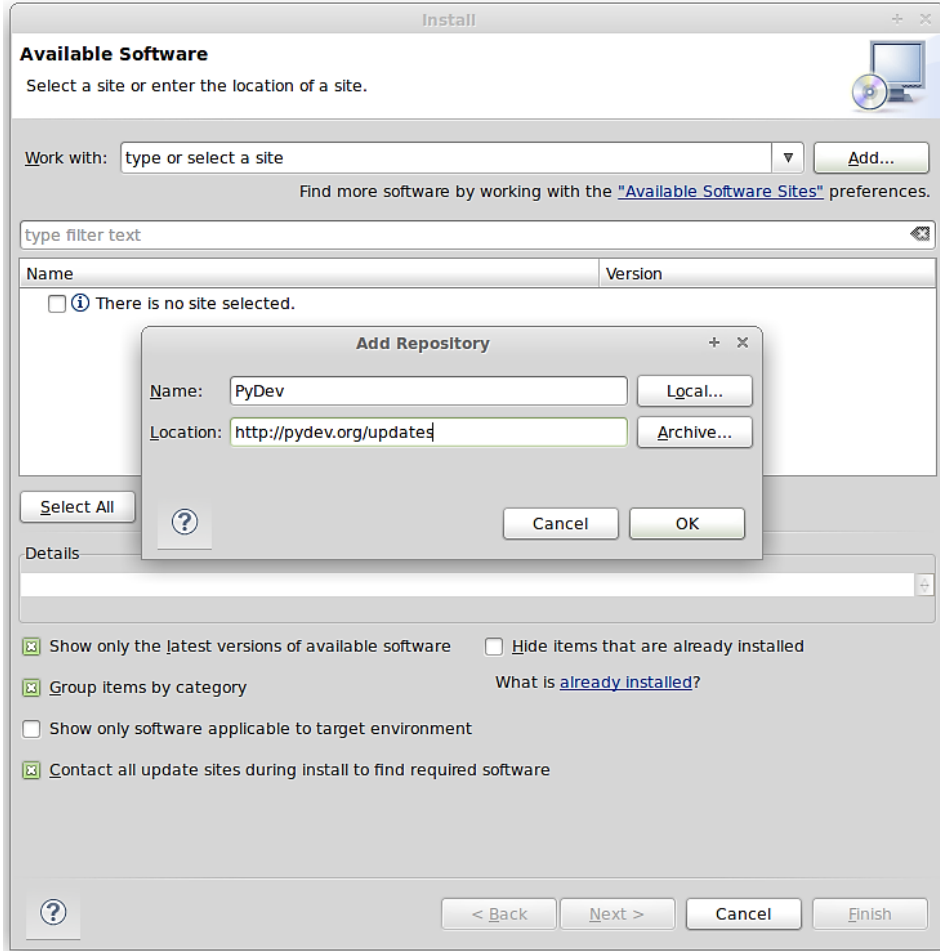

Figure 53: Installing Eclipse PyDev Plug-in
- As shown in Figure 53 enter the following: